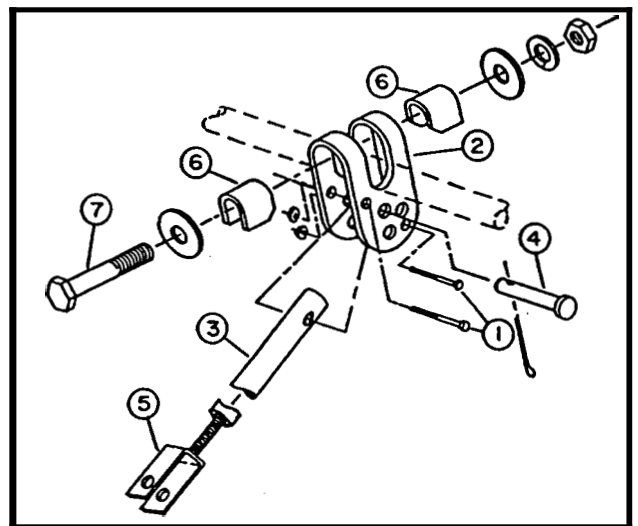

FIGURE 2
- a) Insert two 3/8" x 2 1/4" bolts (fig.2, item 1) through the smaller holes in the lift lever (fig.2, item 2), and secure them with a 3/8" uni-torque (stover) self-locking nuts. **DO NOT BEND THE LEVER.**
- b) Attach push arm (fig.2, item 3) to the lift lever (fig.2, item 2) with a 17/32" x 2 1/4" pin (fig.2, item 4) as shown. **BE SURE TO USE THE CORRECT HOLE.**
Use a 5/32" x 1" cotter pin to secure the pin (fig.2, item 4).
- c) Thread the adjustment fork (fig.2, item 5) into the end of the push arm (fig.2, item 3). Adjust the overall length of push arm assembly to 32 13/16".
- d) Place an 11/16" flatwasher and a bent retainer plate (fig.2, item 6) on the 5/8" x 4" bolt (fig.2, item 7).